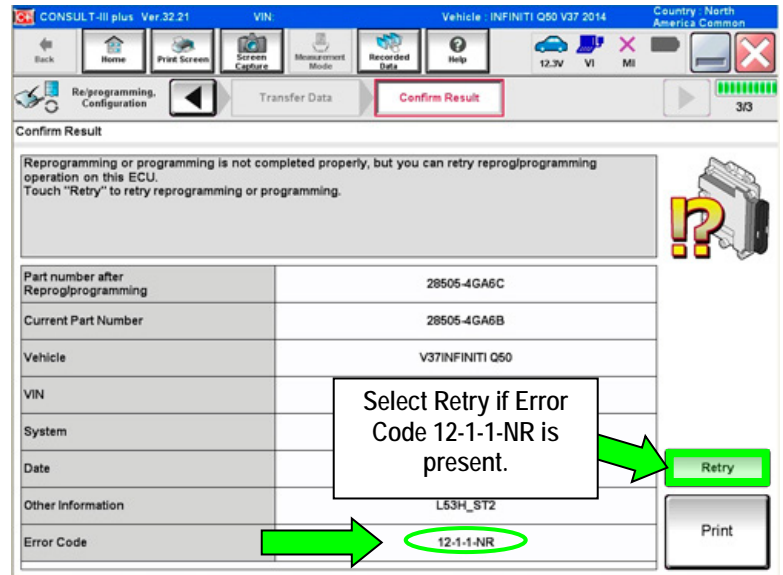

Figure 16
- If the progress bar freezes at 90% of a complete transfer to the plus VI and error code "12-1-1NR" is displayed (see Figure 16 on the next page), **turn the ignition OFF, then ON**, and then refer to **Control Unit Recovery** on the next page.
If reprogramming does not complete and the “!?” icon displays as shown in Figure 16: